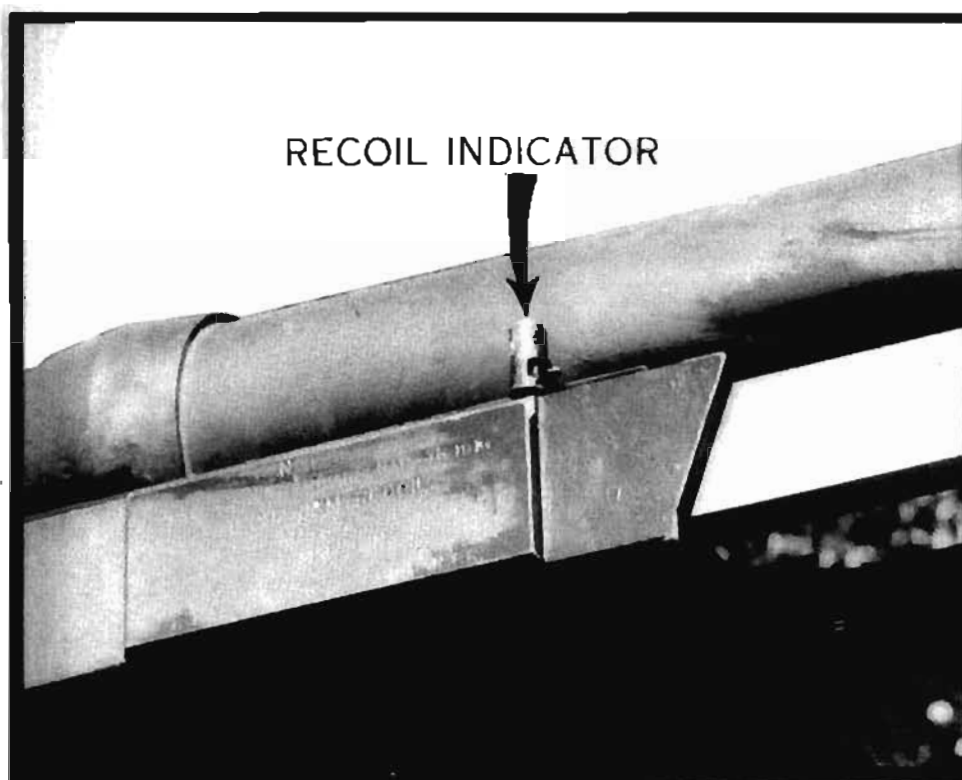

Figure 37
C. Recoil indicator (fig. 37).